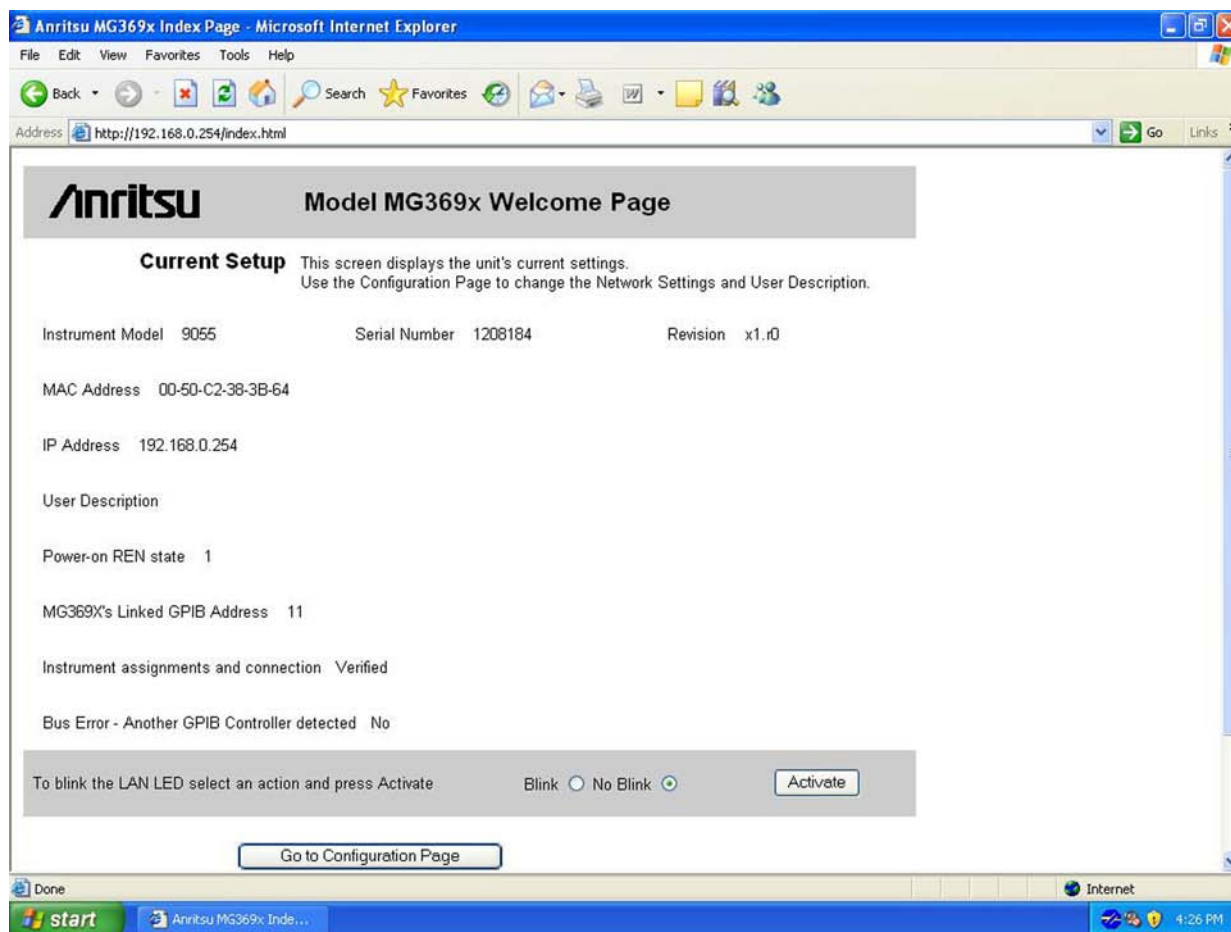

Figure 2-18. Factory IP Address Reset Verification
6. The Welcome Page should appear as shown in Figure 2-18 on page 2-21.